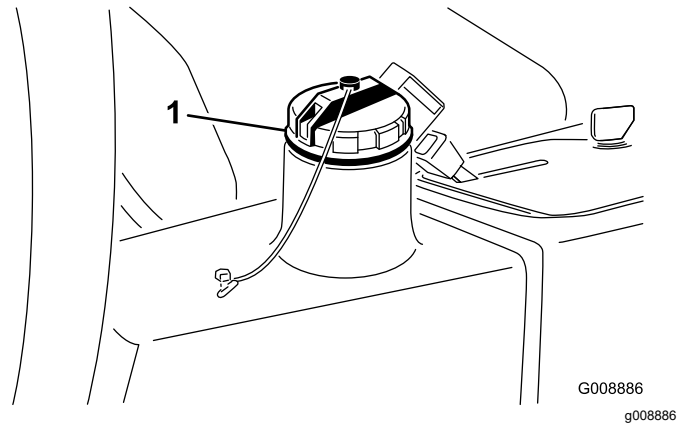

Figure 77
5. Fill the reservoir (Figure 77) with hydraulic fluid; refer to Checking the Level of the Hydraulic Fluid (page 49).